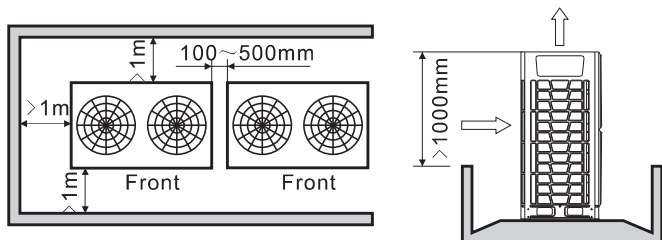

Fig. 3.10 1 row
- 4) When outdoor units are higher than surrounding barriers and they will be arranged in 2 rows, please see Fig.3.10.